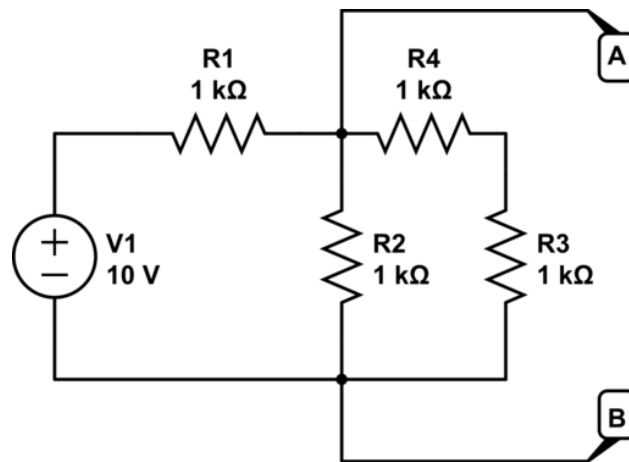

Figure 2: Resistor Network
- Q. Following the guidelines in section 2.19 of your textbook, calculate the Thevenin voltage and resistance for the circuit in figure 2, between points A and B.
- Construct the circuit in figure 2 and measure the voltage between A and B.